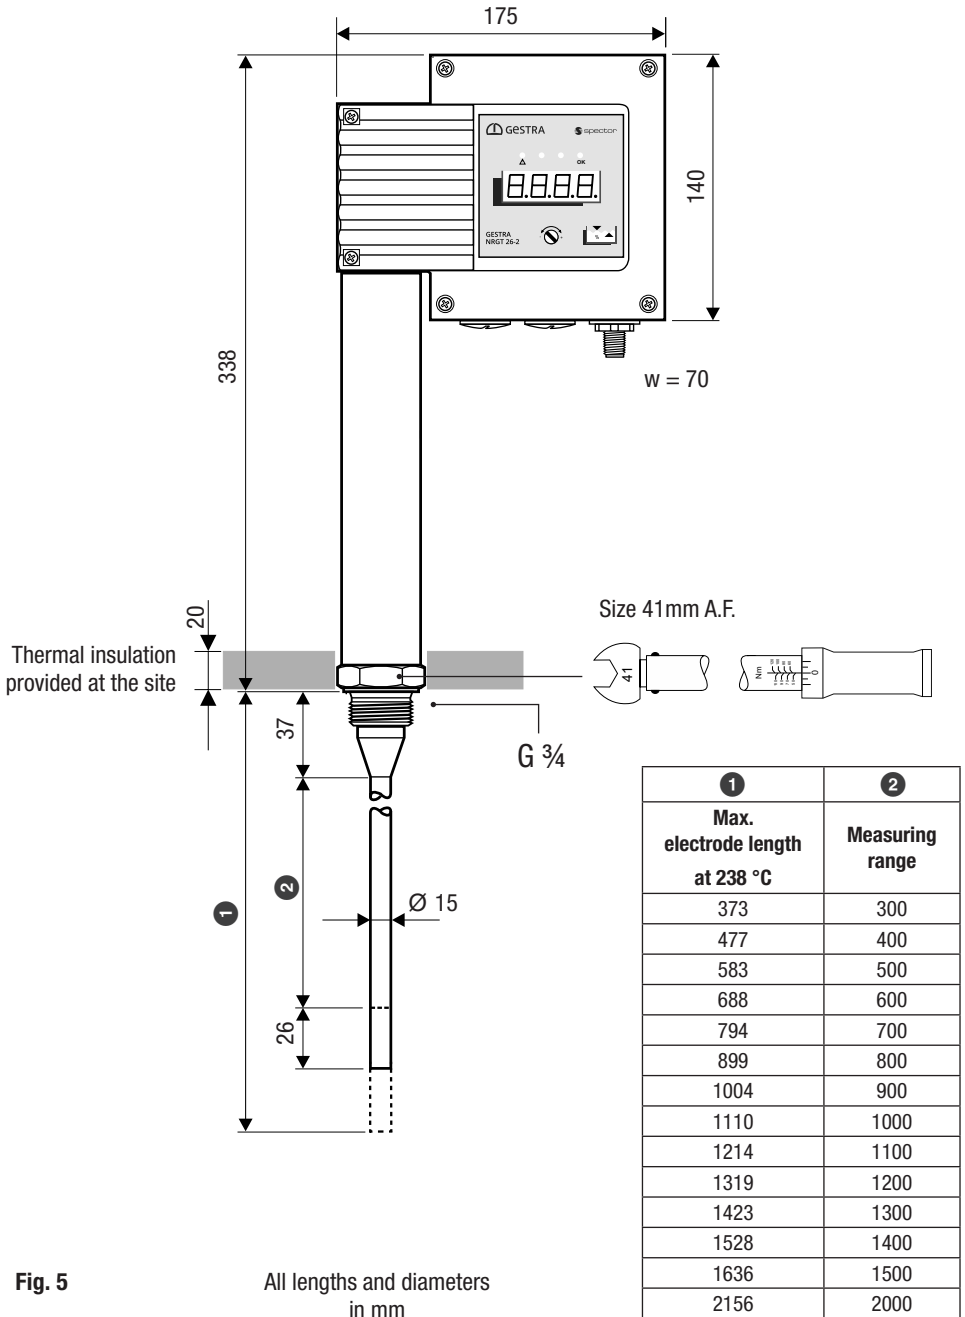

Fig. 5
- NRGT 26-2n Thread G $\frac{3}{4}$ A, EN ISO 228-1, see Fig. 5